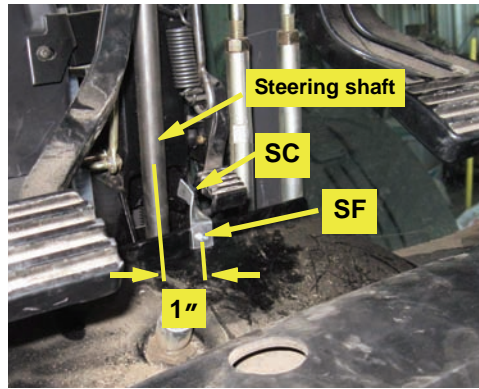

Figure 1e: Installed sensor/sensor bracket
- e. Attach the twisted aluminum bracket **SC** to the raised edge of the floor pan using the self-drilling screw **SF** through the pilot hole. Position the center of the pilot hole 1" from the centerline of the steering shaft (Figure 1e).
- f. Carefully bend the bracket forward until the center of the sensor hole aligns with the center of the steering shaft (Figure 1e).